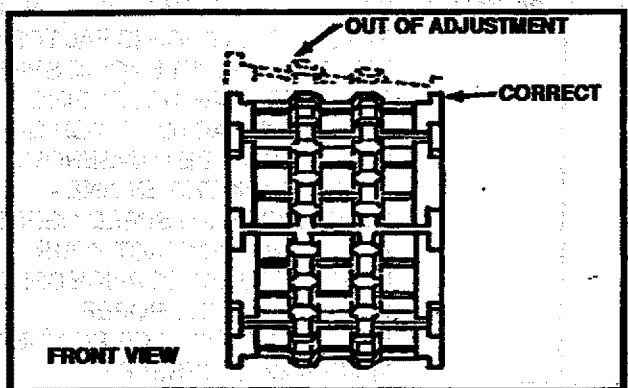

FIG. 39
- Adjust the track to reduce slack, so that the distance between the top of the side plate and the inside of the track is not greater than two (2) inches. Be sure the cam washers are adjusted evenly or the track will be twisted (See Fig. 39). If the track becomes twisted, readjust the cam washers to the correct adjustment.